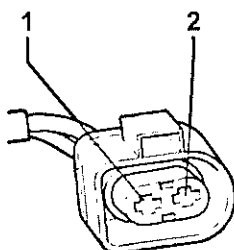

Fig 12 Connector plug for EGR solenoid valve (N18)
19.6 If the set-point value is attained, switch ON the ignition, measure the supply voltage on plug contact one (see Fig 12 (1)) and on the engine earth. The set-point value should approximately match the battery voltage supply.